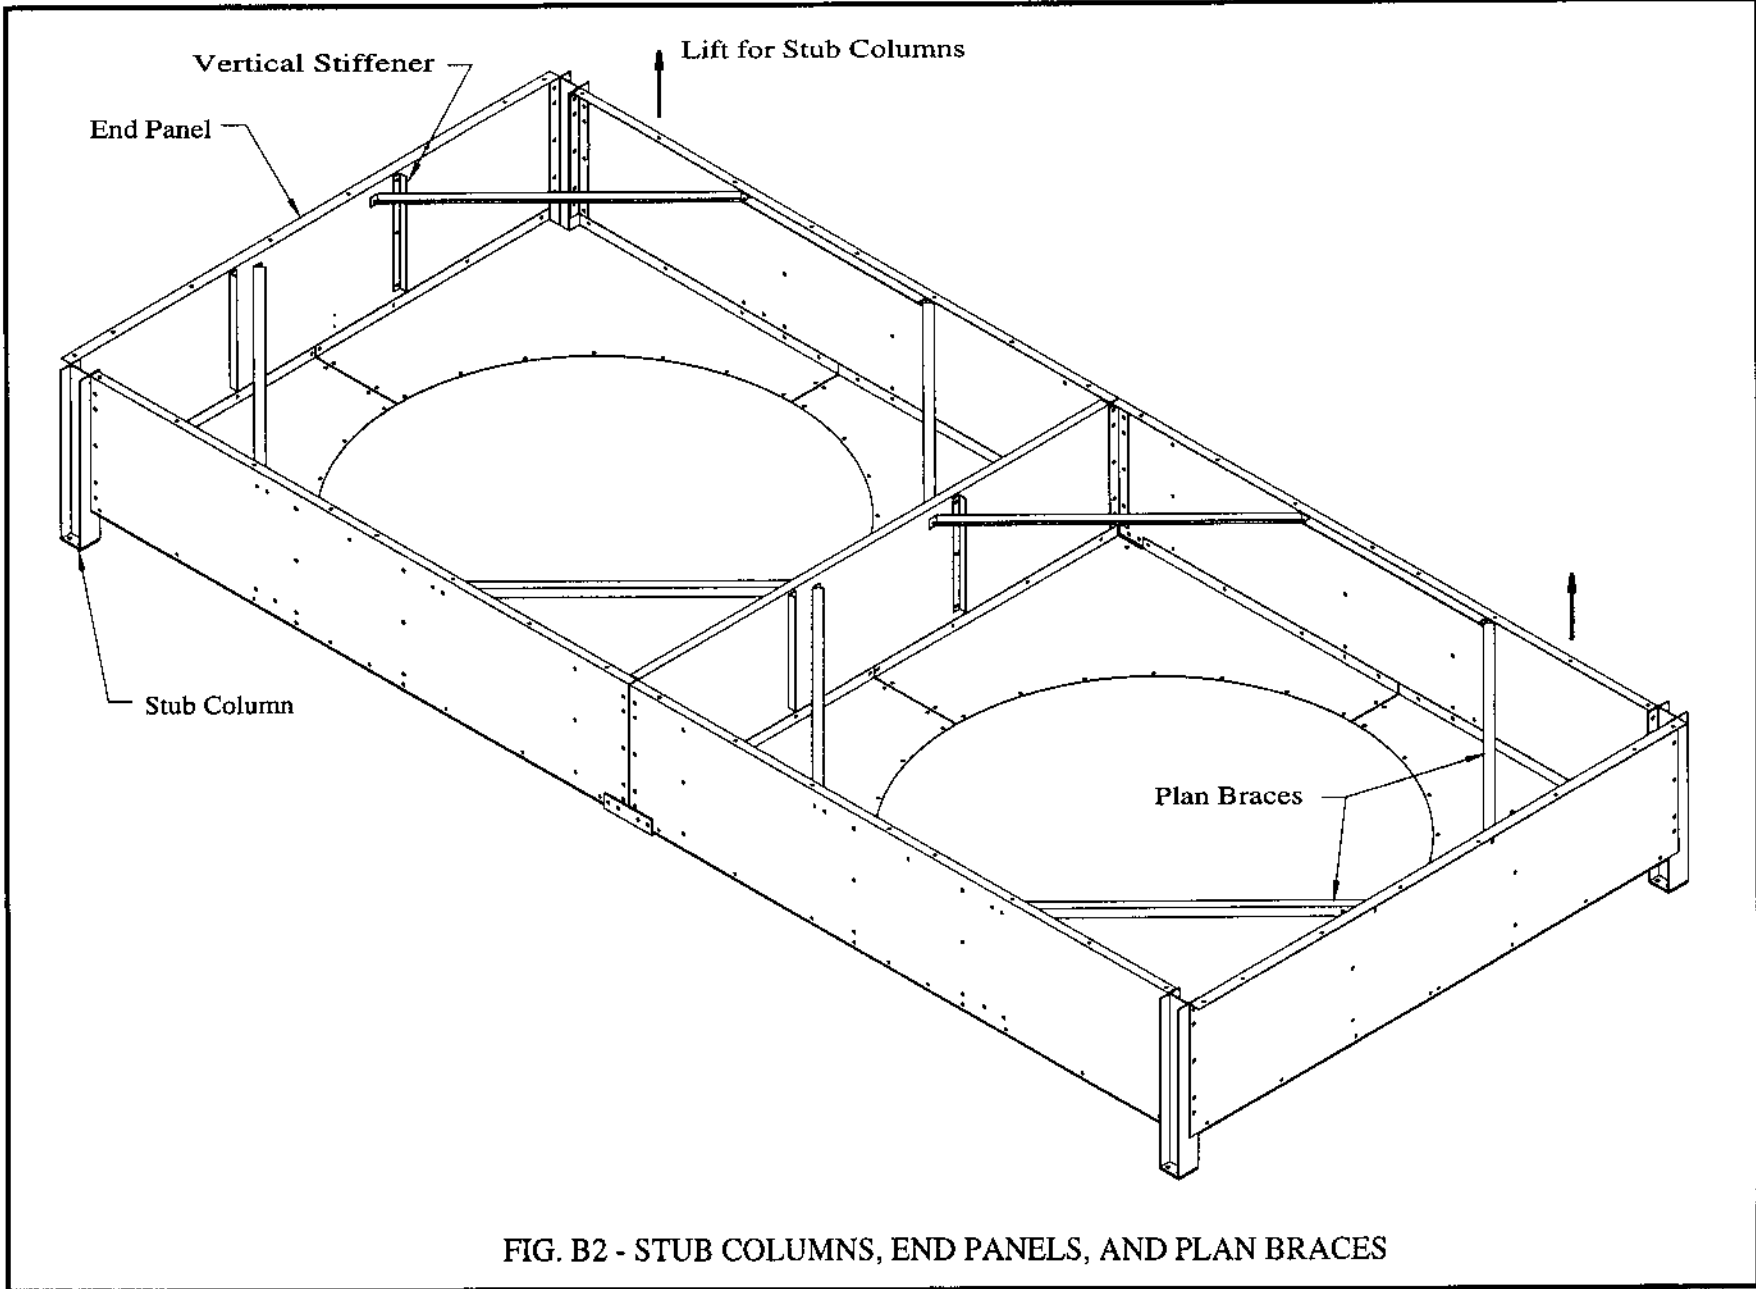

FIG. B2 - STUB COLUMNS, END PANELS, AND PLAN BRACES
2. Install stub columns to both ends of side panels. Lift at each end of side panels, using lifting eyes by others. Install end panels to bottom panels and columns. Install plan bracing, square off the unit, and tighten bolts. See Fig. B2.